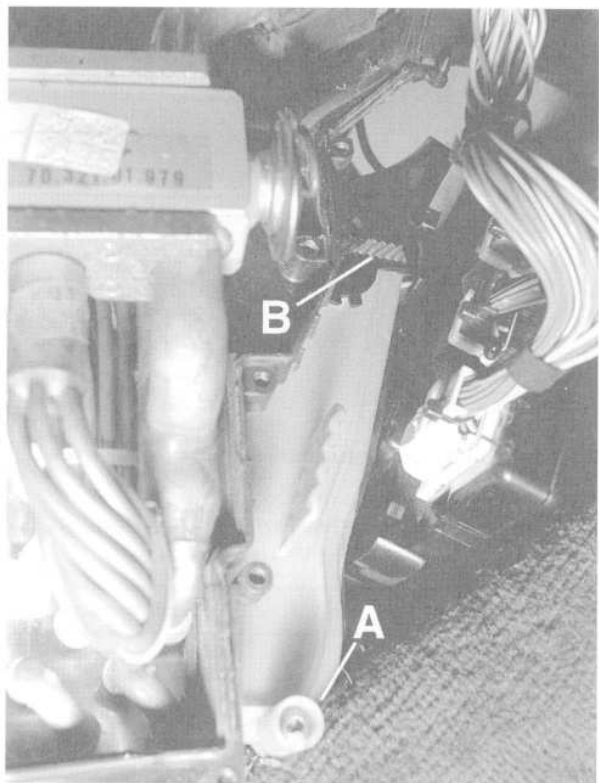

Fig. 30. Remove microfilter cover by removing screw (A) and turning locking lever (B) to release.
5. Remove cover from microfilter housing. See Fig. 30.